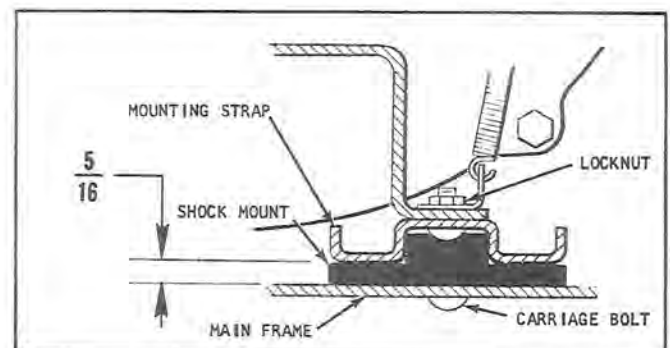

Figure 12
- Remove the locknuts and washers securing the engine and engine mounting straps to the main frame. During reassembly, tighten the locknuts sufficiently to allow a 5/16-inch clearance as shown in figure 12.
- Remove the locknuts, spacers and washers securing the engine mounting straps to the main frame. Remove the engine, engine base and mounting straps as a unit. During reassembly, tighten the locknuts sufficiently to allow a 5/16-inch clearance as shown in figure 12.